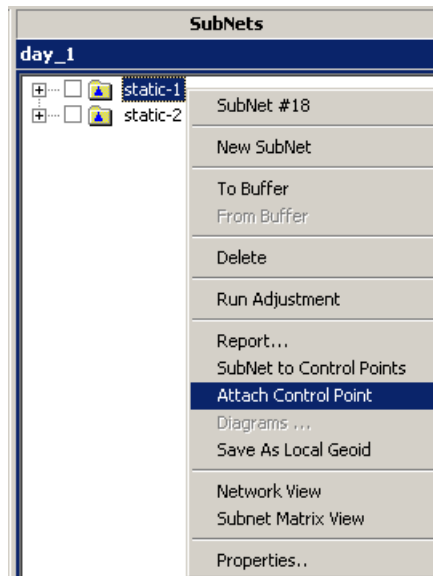

Figure 3-3
- **Using the 'Attach Control Point' option from a subnet's context menu (or from the pop-up menu activated by clicking on a point in the corresponding 'Network View' window). See *Figure 3-3*.**